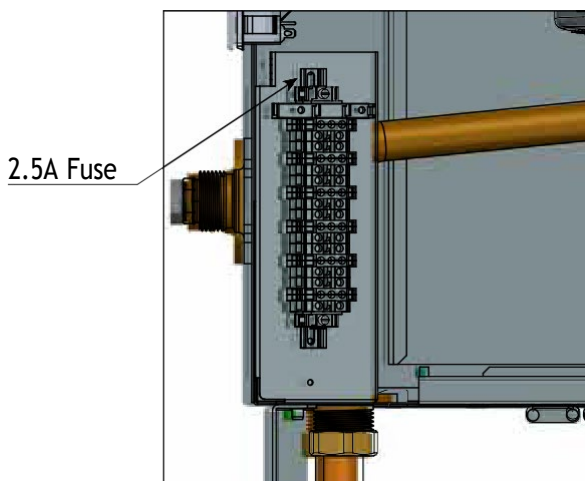

Fig. 31 - Terminal Strip Location
- A 2.5A fuse is also located on the terminal strip, to protect the output. Refer to *Fig. 31 on page 46*.
1. Connect a dedicated 120 VAC/15A service to the line voltage terminals located internally in the lower left corner, as shown in Fig. 31 below.
2. Connect the CH1 & CH2 circulator wiring to the respective line voltage terminals located internally in the lower left corner, as shown in Fig. 31 on the left. This circulator is typically used to supply heat to the central/ space heating loop.
3. Connect the DHW circulator wiring to the line voltage terminals located internally in the lower left corner, as shown in Fig. 31 on the left. This circulator is typically used to supply heat to an indirect hot water heater.
4. The boiler pump is factory wired to the line voltage terminal as shown in Fig. 31 on the left.